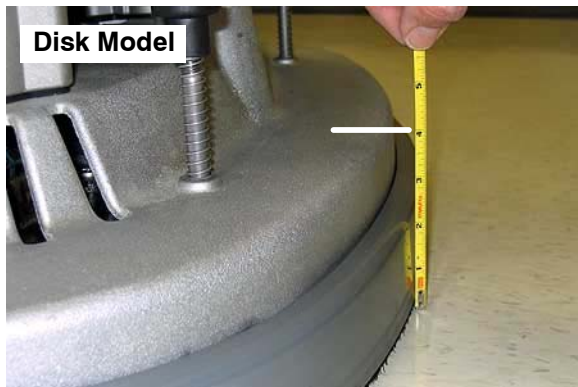

Fig. 14
2. **Disk Model:** Measure the distance from the front top edge of the scrub head to the floor and from the back top edge of the scrub head to the floor (Figure 14). The two measurements should be equal.